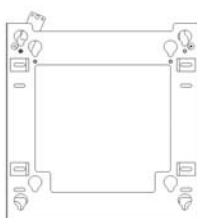
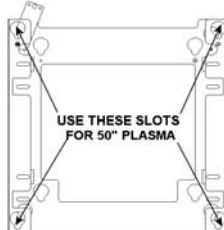

Figure 8
Figure 9
3. With the aid of another person, lift plasma display up to the mount, aligning mounting buttons with the teardrop slots dependent upon the model plasma (see Figure 8 for 32" and 42" & Figure 9 for 50").